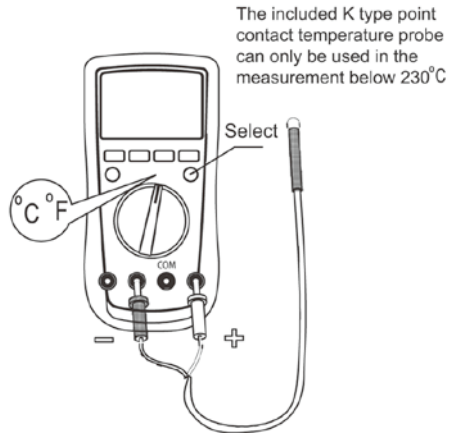

figure 9
H. Temperature Measurement (See figure 9)
2. Insert the temperature probe into the input terminal as shown on the figure 9.